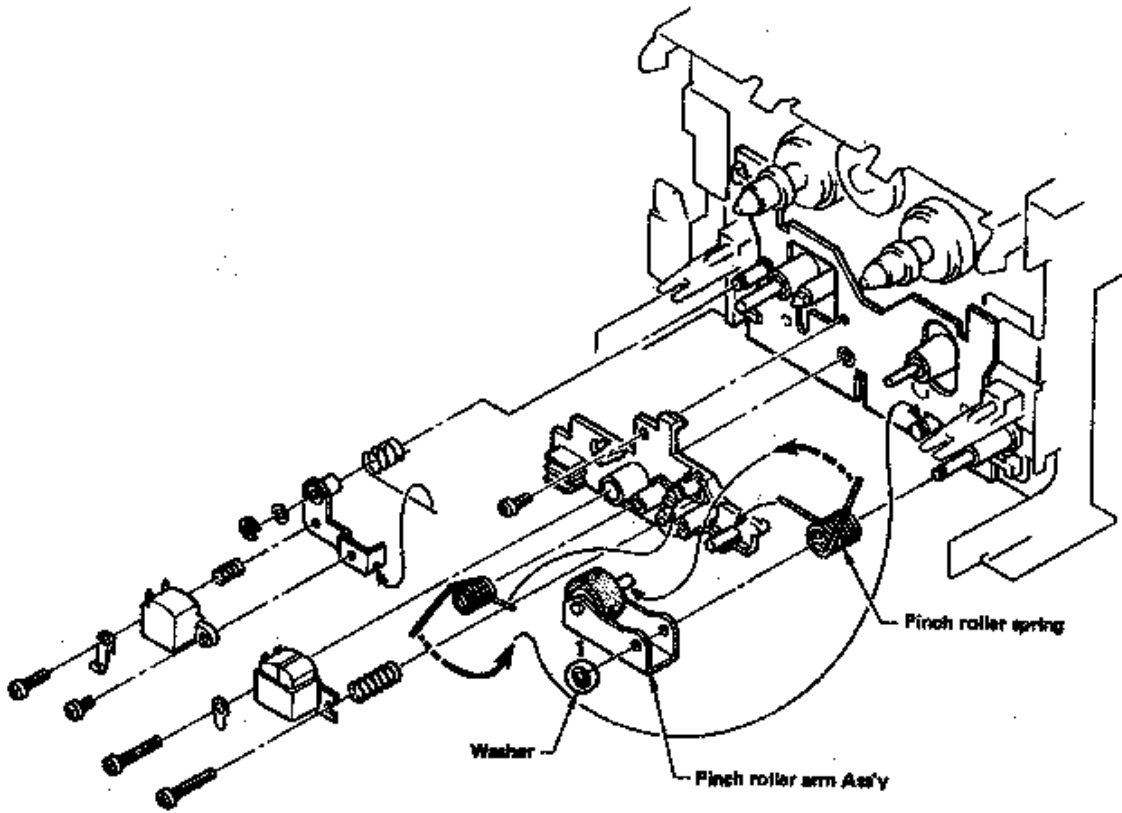

Fig. 10
- Remove the washer ① in fig. 10 and then replace the pinch roller arm assembly.
* Refer to fig. 10 as to the position of pinch roller spring.